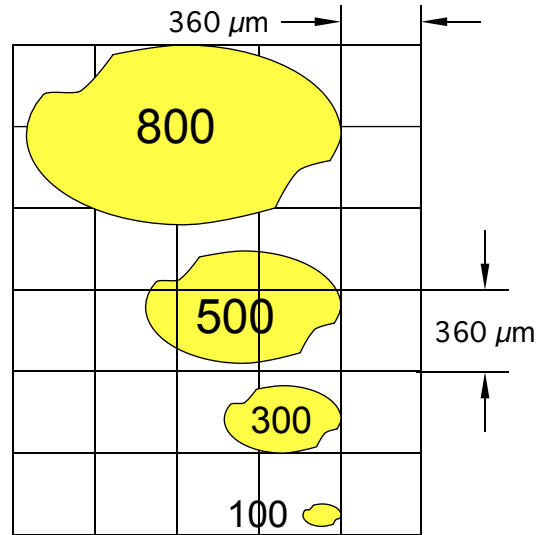

Figure 4 Spot sizes on Grid
- b. The spots will appear elliptical since the x-ray beam is at  $35^\circ$  to the surface ( $55^\circ$  to the normal). The observed size in the horizontal distance (nonBragg) needs to be corrected by  $\sin(35)=0.57$ . Thus, the observed spot needs to appear larger by  $1/0.57 = 1.74$ , Table 2, Fig 4.